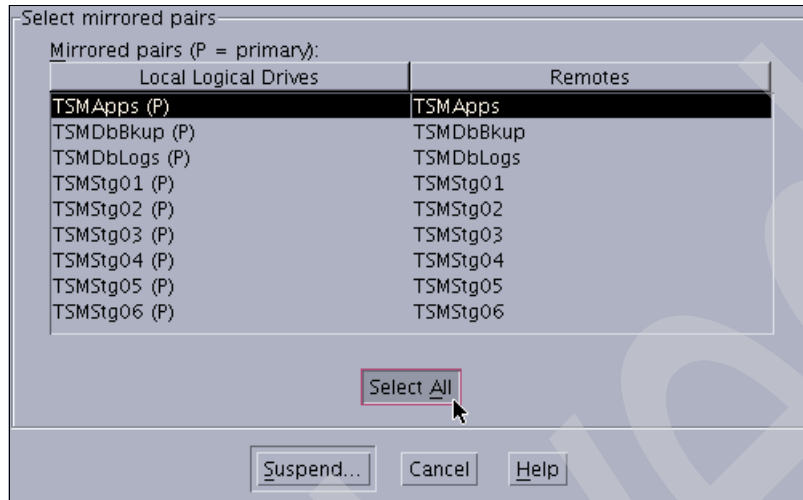

Figure 13-41 Suspend Mirroring: Select All mirrored pairs
- The Suspend Mirrored Pair dialog is displayed. The dialog lists all primary logical drives in the storage subsystem. The primary logical drive that you initially selected is highlighted (see Figure 13-41). Select all of the primary logical drives by clicking **Select All** and click **Suspend** to proceed.